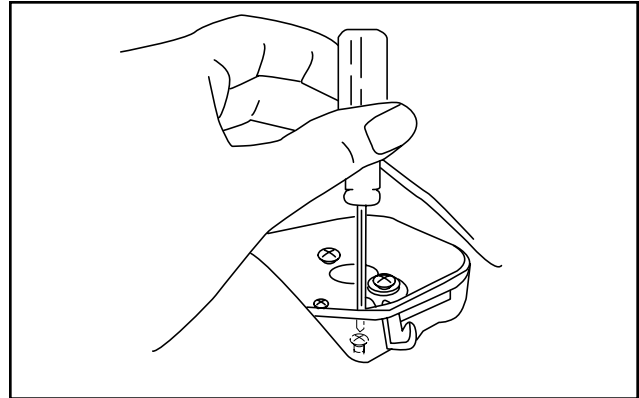

Fig. 29
- a) Remove the air filter cover and insert a screwdriver through the opening in the air filter base (Fig. 29).